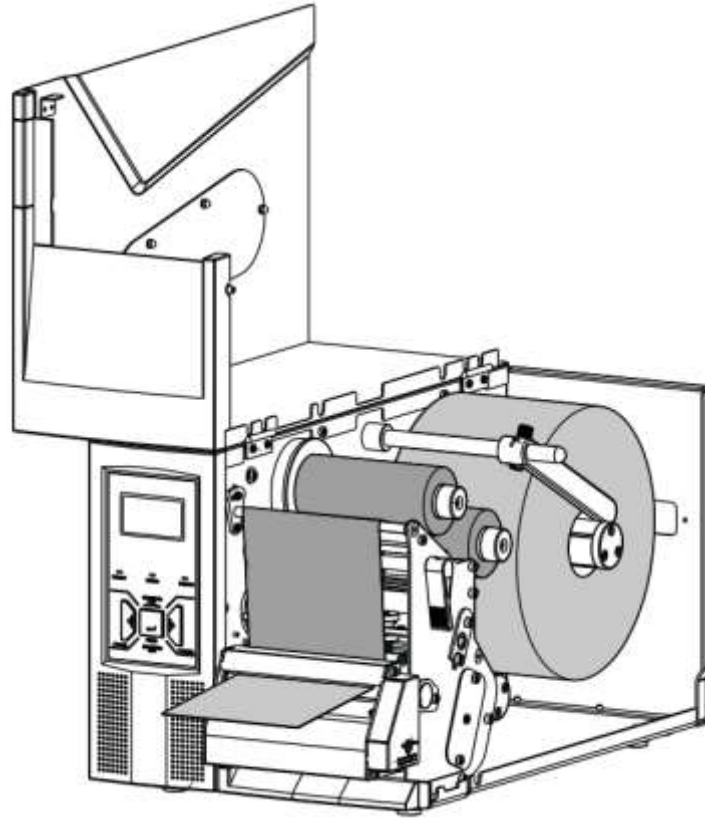

Figure 3-5
4. Turn the lever counter clockwise to release the Printhead Module, load the media and ribbon on the printer, lead the label pass and through the cutter. Then close the printhead, the cutter is now ready to use. See Figure 3-5.